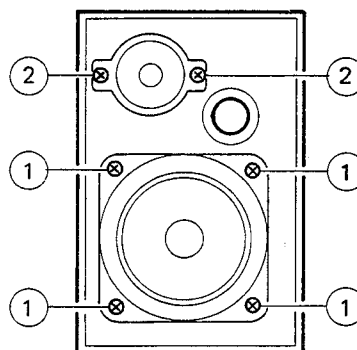

Fig. 7-33
9. For removing the speaker unit, remove four screws ① for the full range speaker while two screws ② for the tweeter as shown in Fig. 7-33.